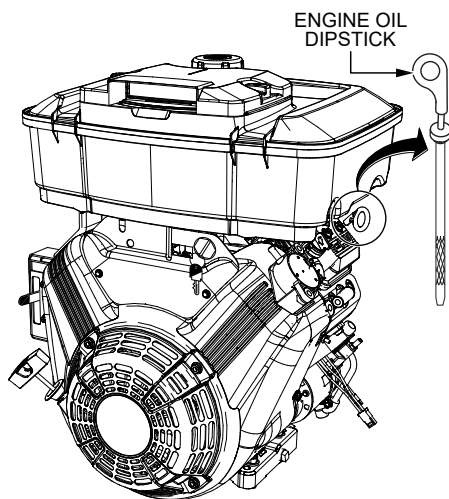

Figure 5. Engine Oil Dipstick
2. Remove the engine oil dipstick (Figure 5) from the engine and wipe it clean.